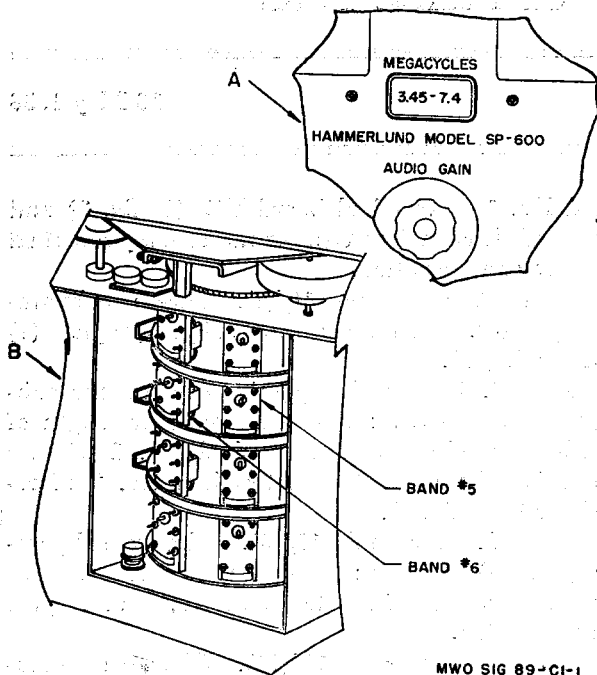

Figure 10. Location of rf interstage subassemblies for bands 5 and 6.
- (a) Set the BAND CHANGE switch to band 3 (A, fig. 10). This will bring
- the rf interstage subassemblies for bands 5 and 6 to the bottom and accessible for easy removal (B, fig. 10).